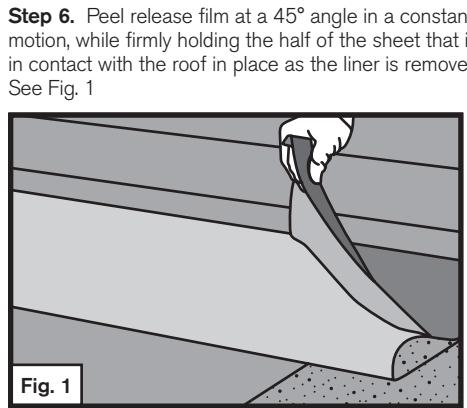

Fig. 1
**Step 5.** Fold the aligned sheet back half way exposing the release liner. See Fig. 1